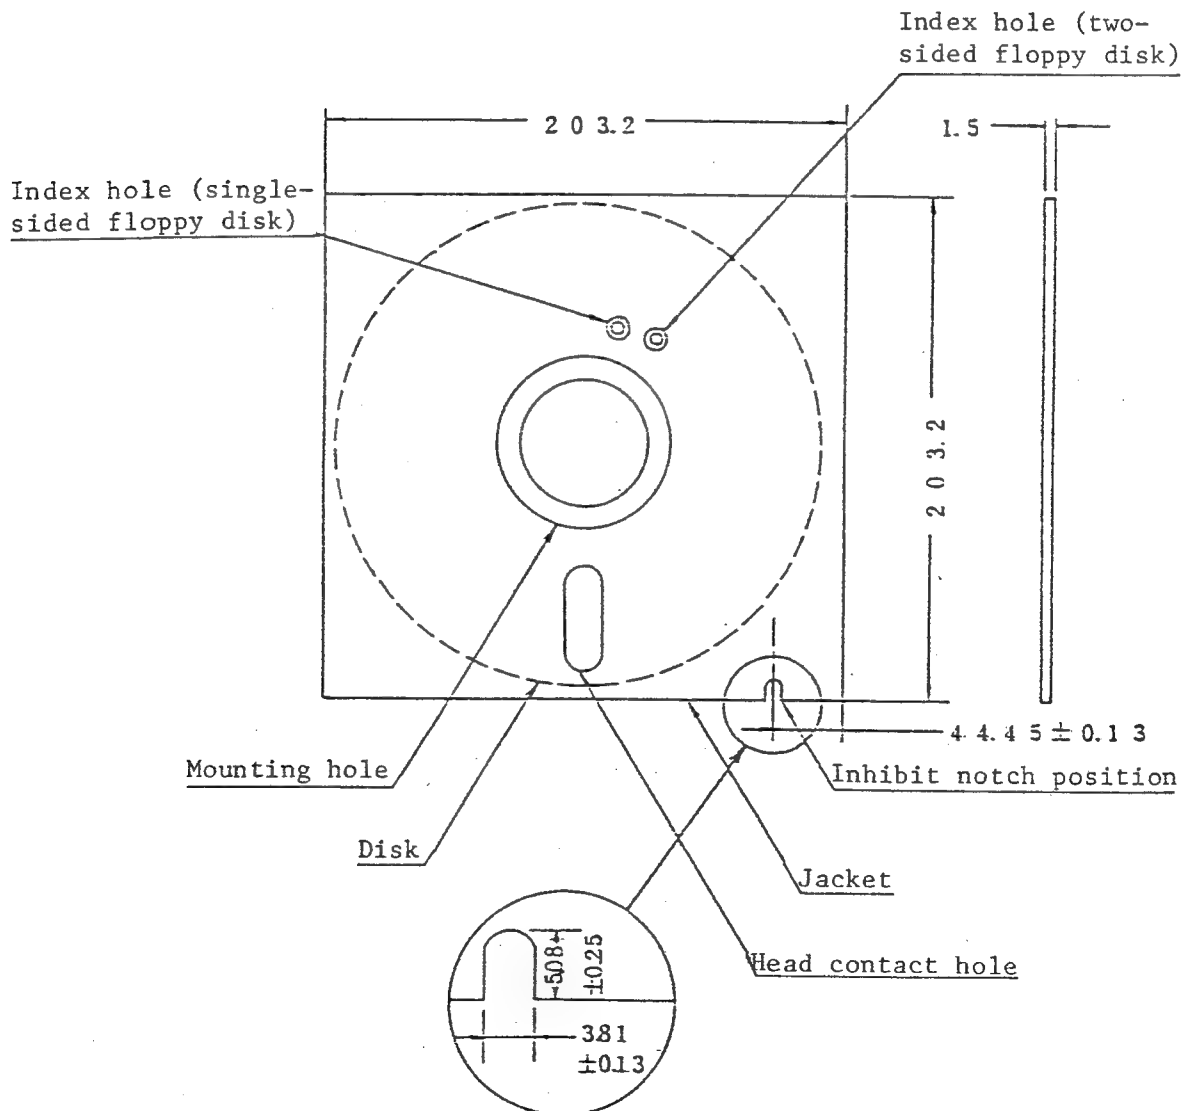

Fig. 2.5 Recording Medium
- (1) As shown in Fig. 2.5, the recording media for the FDD is floppy disk composed of flexible, oxide-coated mylar sheet, housed in a dedicated jacket.
- (2) IBM's floppy disks (IBM DISKETTE I, II, IID) are the standard recording media.
- (3) To use the file protection feature requires an inhibit notch, the specifications of which are shown in Fig. 2.5.